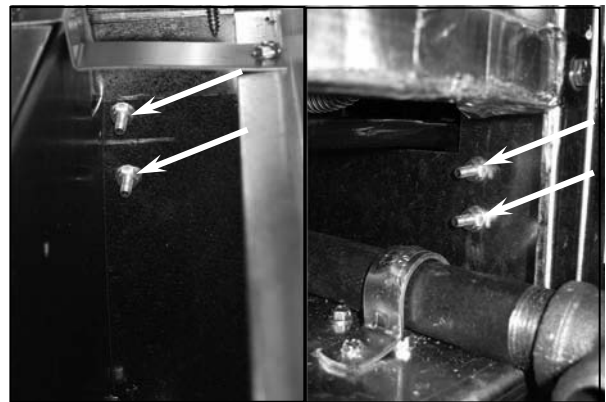

Figure 5. Insert bolts, but do not tighten.
7. Insert bolts and install nuts loosely (Fig. 5, arrows). Do not tighten bolts at this time.